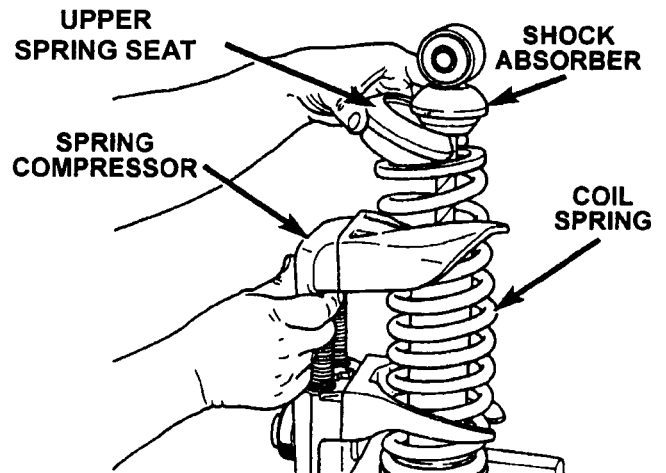

Figure 29
3. Compress the shock absorber coil spring using Professional Service Equipment Spring Compressor GP-2020-C3.5 or equivalent (Figure 29). The spring compressor must be equipped with an A-20 spring shoe on the top and bottom.